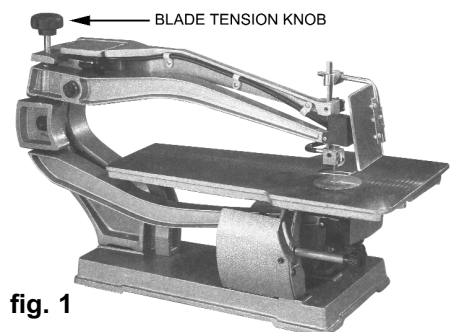

fig. 1
- 3.1.1 Remove tension on blade arm by turning tension knob anticlockwise. (See fig.1).